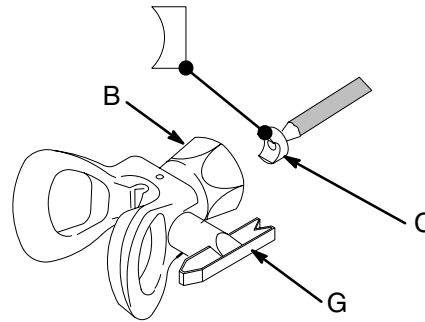

Fig. 14
- Place the seat (C) on a pencil, curved side out, as shown in Fig. 14. Guide the seat into the retaining nut (B) and turn the seat until it straddles the cylinder of the SwitchTip (G).